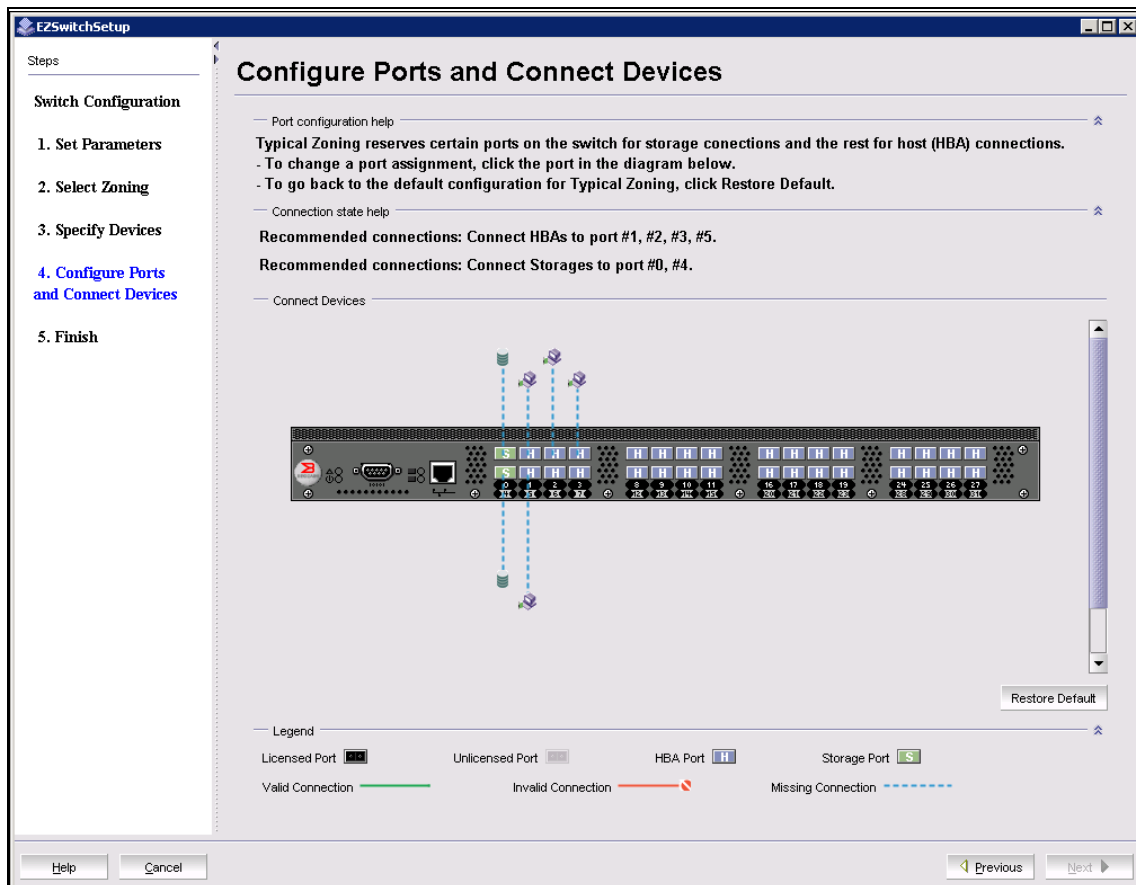

Figure 6-15 EZSwitchSetup - Configure Ports and Connect Devices
11. EZSwitchSetup wizard then displays the device connection window (see Figure 6-15), which suggests the ports that you need to use for the requested connections. Here, you need to connect the hosts and storage physically as suggested by the software.